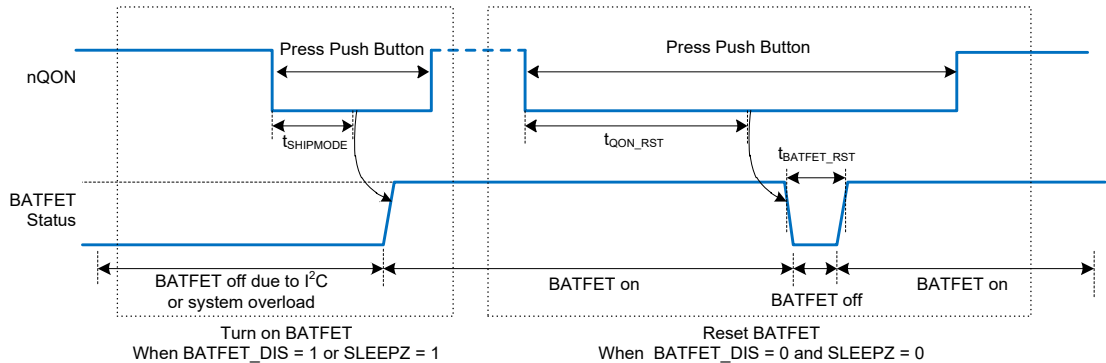

Figure 10. nQON Enable and Reset BATFET Timing
1. Enable BATFET: Applying an nQON logic high to low transition with longer than t_{SHIPMODE} deglitch time (negative pulse) turns on BATFET to exit ship mode (Figure 10 left).
2. Reset BATFET: By applying a logic low for a duration of at least t_{QON_RST} to nQON pin while VBUS is not powered and BATFET is allowed to turn on (BATFET_DIS bit = 0), the BATFET turns off for t_{BATFET_RST} and then it is re-enabled resulting in a system power-on reset (Figure 10 right). This function can be disabled by clearing BATFET_RST_EN bit.